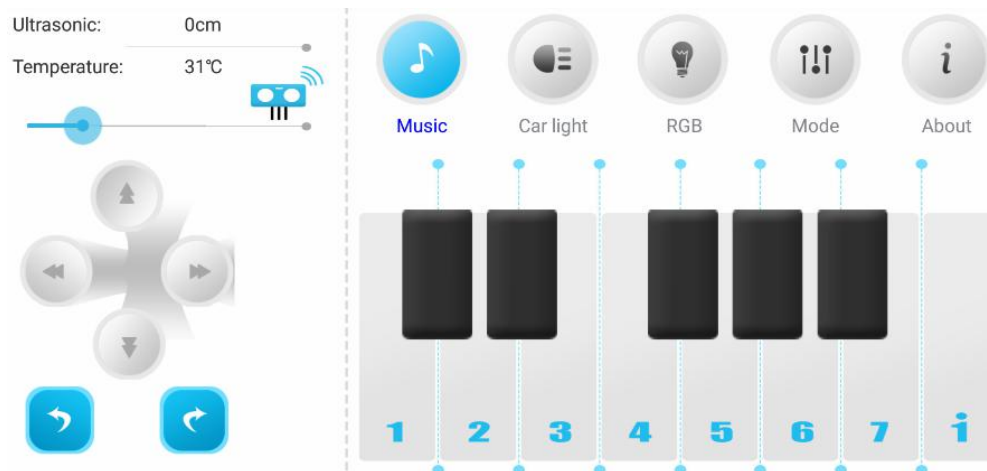
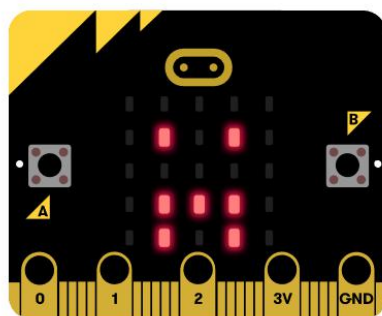

Figure 1.3
Figure 1.4
6.3 When the APP interface is switched to the screen shown in Figure 1.3, and the robot's dot matrix is switched to the pattern shown in Figure 1.4, the connection is successful and the next operation can be performed.